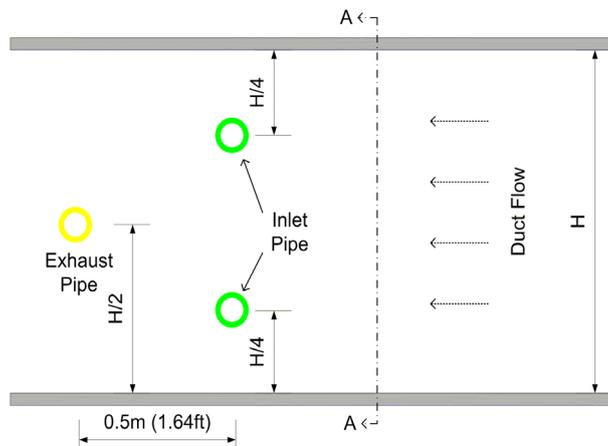

Figure 9: Side view of the inlet and exhaust pipe positions for a large duct.
Large ducts are defined as those with widths of 1 to 2 m (3.28 to 6.56 ft). For these ventilation ducts, it is recommended that the inlet pipe of the smoke detector be in two branches. The figure below (Figure 9) shows a side view of a duct section with the relative insertion points for the inlet and exhaust pipes. The two inlet branches are located at a quarter of the height (H) of the duct with the exhaust pipe inserted mid-height approximately 0.5 m (1.64 ft) downstream of the inlet pipes.